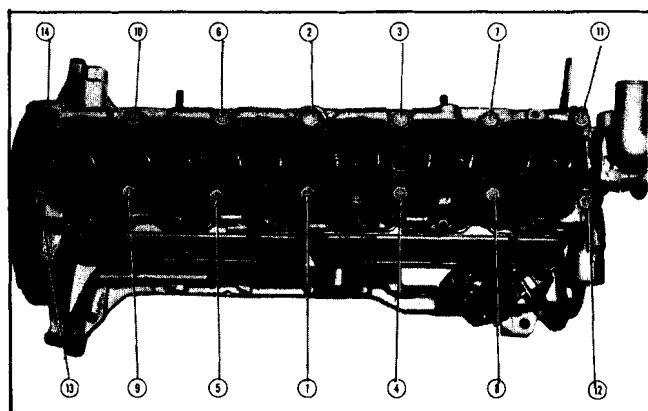

Fig. 6-29 Cylinder Head Tightening Sequence
4. Tighten the cylinder head gradually with a torque wrench. Tighten bolts following sequence in Fig. 6-29. The final torque should be 95 lb. ft.